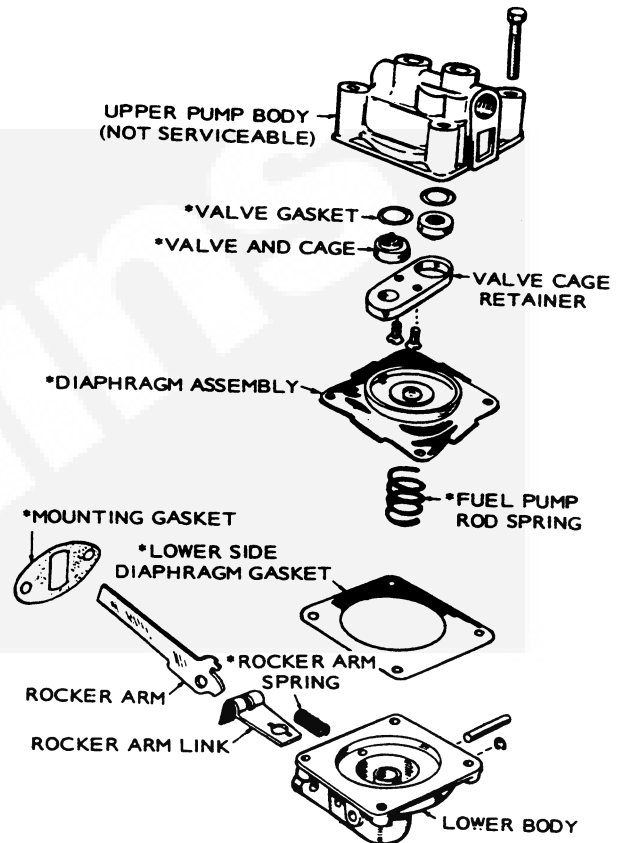

FIGURE 22. MECHANICAL FUEL PUMP - EXPLODED VIEW
Figure 22 shows a diaphragm-type fuel pump. If fuel does not reach the carburetor, check the fuel pump before dismantling it.
3. Detach the valve cage retainer from the pump upper body. Noting their position, remove the valve and cage assemblies and their gaskets from the retainer (Figure 22).